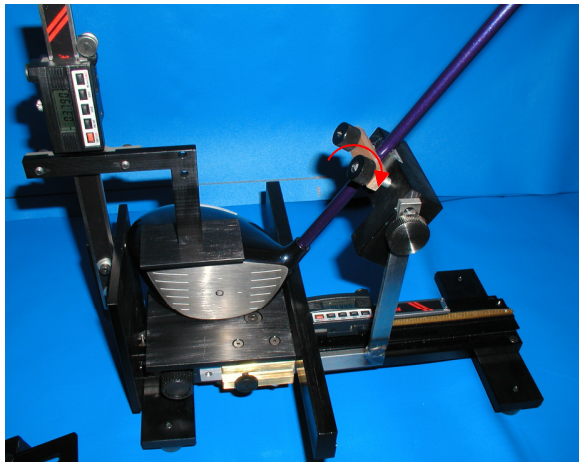

Figure 6.4–Club in Measurement Apparatus
6.4 With the apparatus now calibrated, remove the gauge blocks and place the club in the clamping assembly (If the clubhead is not shafted, a temporary shaft should be used.) Tighten the shaft clamp slightly so that the club is secure while still allowing enough rotation of the clubhead so that the face can be squared, Figure 6.4.